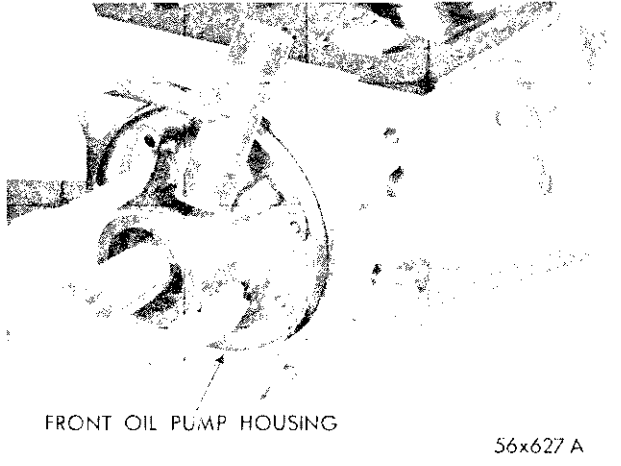

Fig. 54—Removal of Front Oil Pump Housing Assembly
(3) Remove oil pump housing from transmission case by tapping the housing lightly with a soft hammer (Fig. 54). Using dye, mark the pump gears in relation to face of oil pump housing for reassembly purposes. **DO NOT SCRIBE.**